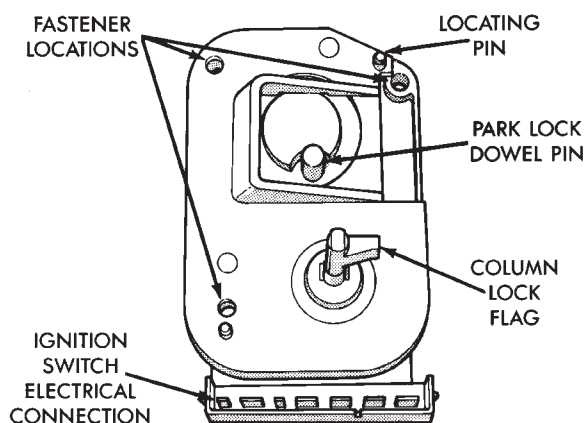

Fig. 12 Ignition Switch—View From Column
- the park lock dowel pin on the ignition switch assembly must engage with the column park lock slider linkage (Figs. 12 and 13).